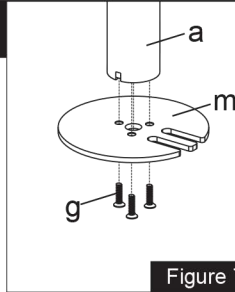

Figure 7
2. Install the Grommet Base Plate(m) to the Pole(a) using 3pcs M5x14 Bolts(g), and tighten using the Allen Key(o), see Figure 7.